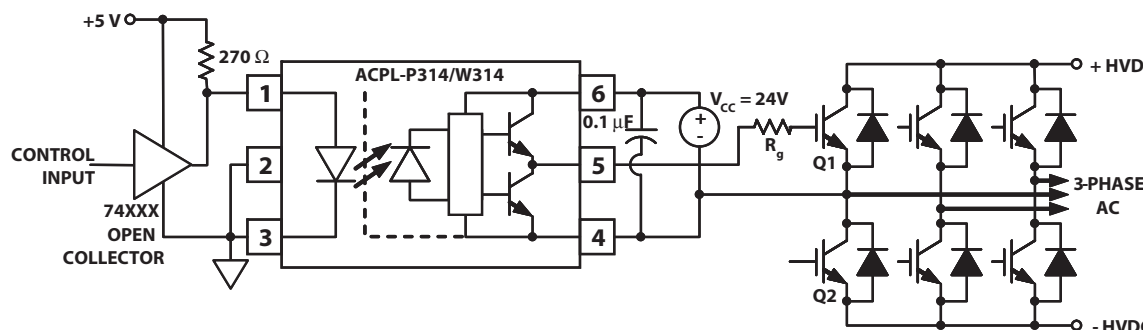
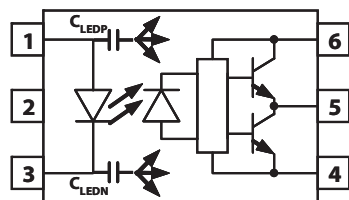
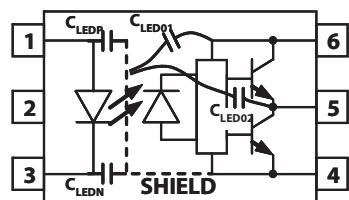
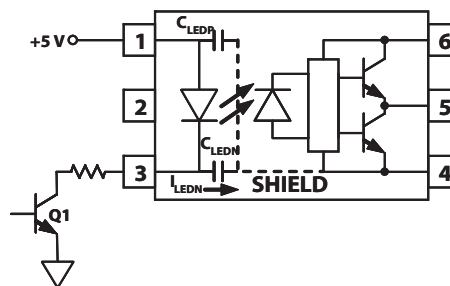

Figure 19. Recommended LED Drive and Application Circuit for ACPL-P314/W314
Figure 21. Optocoupler Input to Output Capacitance Model for Unshielded Optocouplers.
Figure 22. Optocoupler Input to Output Capacitance Model for Shielded Optocouplers.
Figure 24. Not Recommended Open Collector Drive Circuit.
To keep the IGBT firmly off, the ACPL-P314/W314 has a very low maximum  $V_{OL}$  specification of 1.0 V. Minimizing  $R_g$  and the lead inductance from the ACPL-P314/W314 to the IGBT gate and emitter (possibly by mounting the ACPL-P314/W314 on a small PC board directly above the IGBT) can eliminate the need for negative IGBT gate drive in many applications as shown in Figure 19. Care should be taken with such a PC board design to avoid routing the IGBT collector or emitter traces close to the ACPL-P314/W314 input as this can result in unwanted coupling of transient signals into the input of ACPL-P314/W314 and degrade performance. (If the IGBT drain must be routed near the ACPL-P314/W314 input, then the LED should be reverse biased when in the off state, to prevent the transient signals coupled from the IGBT drain from turning on the ACPL-P314/W314.
Step 1: Calculate  $R_g$  minimum from the  $I_{OL}$  peak specification. The IGBT and  $R_g$  in Figure 19 can be analyzed as a simple RC circuit with a voltage supplied by the ACPL-P314/W314.
where  $K_{ICC} \cdot Q_g \cdot f$  is the increase in  $I_{CC}$  due to switching and  $K_{ICC}$  is a constant of 0.001 mA/(nC\*kHz). For the circuit in Figure 19 with  $I_F$  (worst case) = 10 mA,  $R_g = 32 \Omega$ , Max Duty Cycle = 80%,  $Q_g = 100$  nC,  $f = 20$  kHz and  $T_{AMAX} = 85^\circ\text{C}$ :
Without a detector shield, the dominant cause of optocoupler CMR failure is capacitive coupling from the input side of the optocoupler, through the package, to the detector IC as shown in Figure 21. The ACPL-P314/W314 improves CMR performance by using a detector IC with an optically transparent Faraday shield, which diverts the capacitively coupled current away from the sensitive IC circuitry. However, this shield does not eliminate the capacitive coupling between the LED and optocoupler pins 5-8 as shown in Figure 22. This capacitive coupling causes perturbations in the LED current during common mode transients and becomes the major source of CMR failures for a shielded optocoupler. The main design objective of a high CMR LED drive circuit becomes keeping the LED in the proper state (on or off) during common mode transients. For example, the recommended application circuit (Figure 19), can achieve 10 kV/ $\mu$ s CMR while minimizing component complexity.
The open collector drive circuit, shown in Figure 24, can not keep the LED off during a  $+dV_{CM}/dt$  transient, since all the current flowing through  $C_{LEDN}$  must be supplied by the LED, and it is not recommended for applications requiring ultra high CMR1 performance. The alternative drive circuit which like the recommended application circuit (Figure 19), does achieve ultra high CMR performance by shunting the LED in the off state.